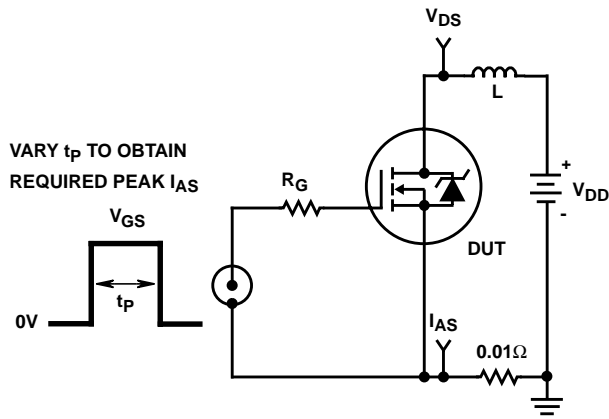

FIGURE 15. UNCLAMPED ENERGY TEST CIRCUIT
4.  $V_{DD} = 25\text{V}$ , starting  $T_J = 25^\circ\text{C}$ ,  $L = 640\mu\text{H}$ ,  $R_G = 25\Omega$ , peak  $I_{AS} = 9.2\text{A}$  (Figures 15, 16).